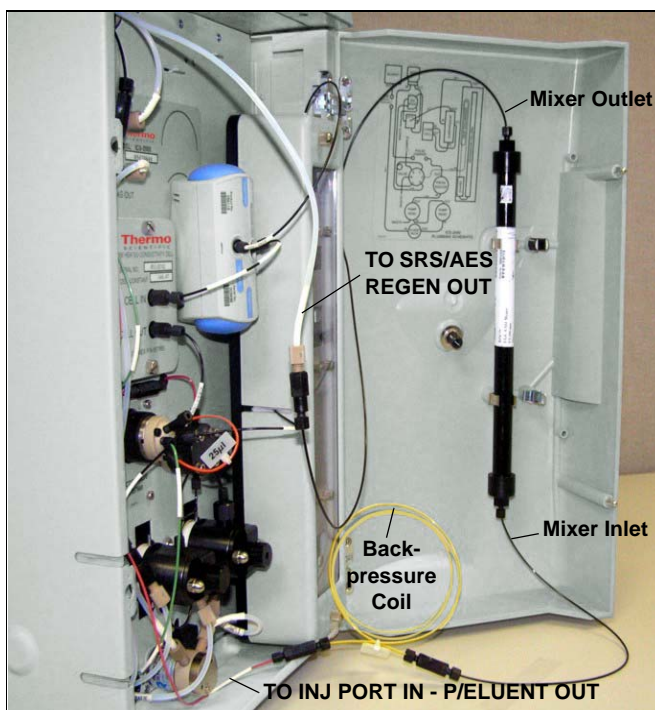

Figure 78. Mixer Connected Directly to Eluent Generator Outlet for Initial Filling
4. Disconnect the outlet of the yellow PEEK backpressure coil from the **TO SRS/AES REGEN OUT** line and then connect the backpressure coil to the mixer inlet (see Figure 78).